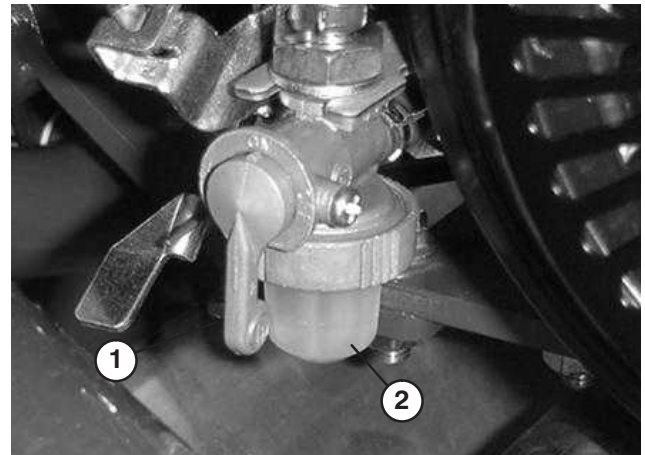

Figure 34
1. Close fuel shut off valve and unscrew bowl from filter body (Fig. 34).